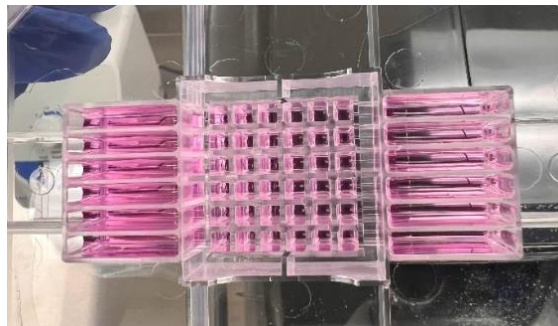

Figure 3. Uniform level of the cell growth medium in the 36PerfusionPlate.
4. Take the perfusion plate out of the incubator and check the level of the cell growth medium in upper and lower reservoirs as well as perfusion wells (**Fig. 3**).